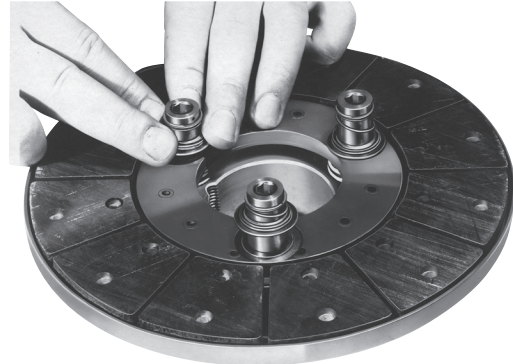

Figure 5
Step 3E: Compress the armature against the hub face and slide each detent spring retainer against the armature face (Figure 5).